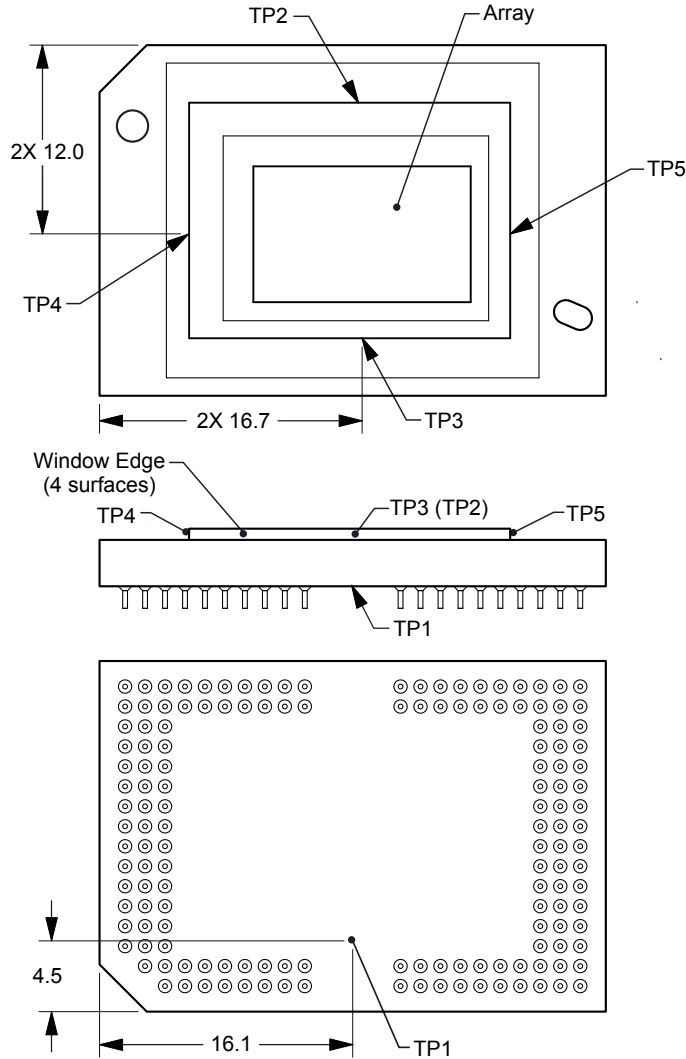

Figure 6-1. DMD Thermal Test Points
Micromirror array temperature cannot be measured directly, therefore it must be computed analytically from measurement points on the outside of the package, the package thermal resistance, the electrical power, and the illumination heat load. The following equations show the relationship between array temperature and the reference ceramic temperature, thermal test TP1 Figure 6-1 shown above:
- T_{CERAMIC} = Measured ceramic temperature (°C), TP1 Figure 6-1
- $R_{\text{ARRAY-TO-CERAMIC}}$ = Thermal resistance of package specified in Section 5.5 from array to ceramic TP1 Figure 6-1 ($^{\circ}\text{C}/\text{W}$).
- Q_{ARRAY} = Total DMD Power (electrical + absorbed) on the array (W)
- $Q_{\text{ELECTRICAL}}$ = Nominal electrical power (W)
- Q_{INCIDENT} = Incident illumination optical power (W)
- $Q_{\text{ILLUMINATION}}$ = (DMD average thermal absorptivity \times Q_{INCIDENT}) (W)